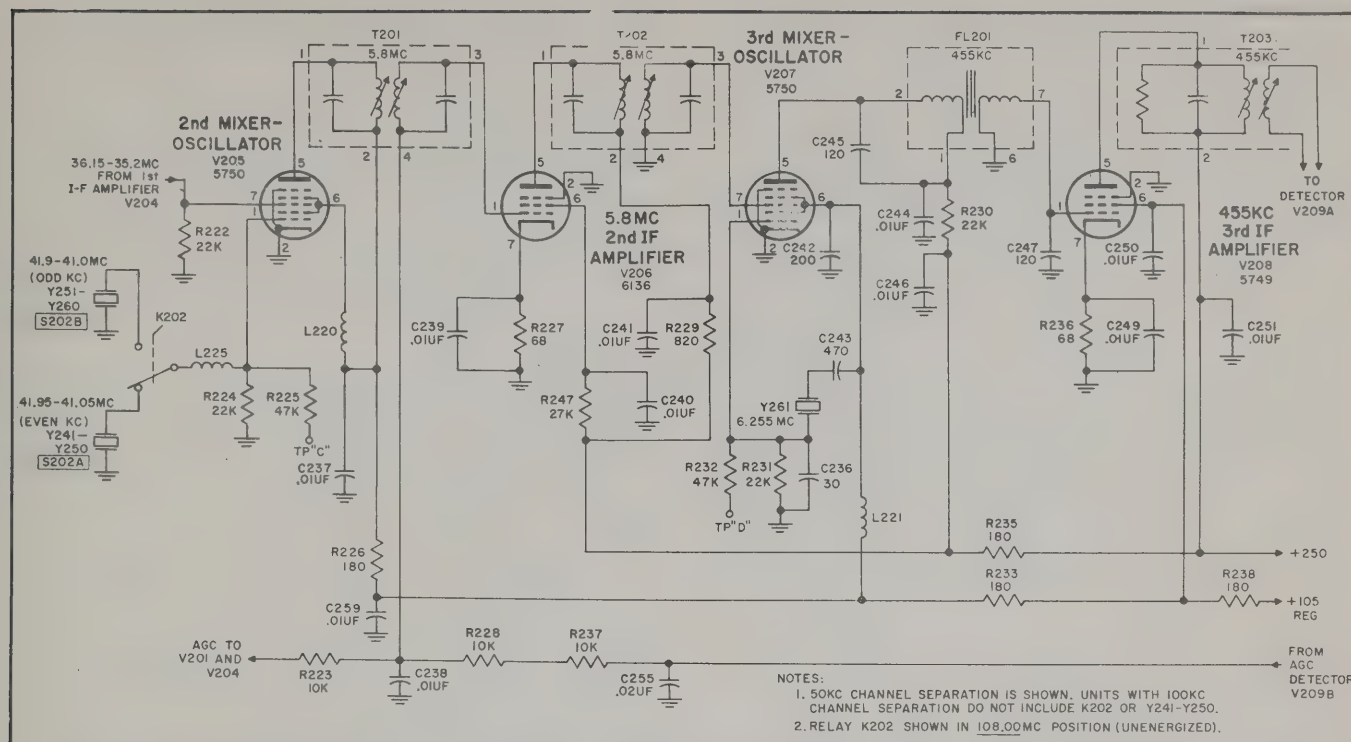

Figure 2-6. 2nd and 3rd I-F Stages, Simplified Schematic Diagram
(1) Mixer-Oscillator V205 and Second I-F Amplifier V206 (See Figure 2-6)
(2) Mixer Oscillator V207 and Third I-F Amplifier V208 (See Figure 2-6)